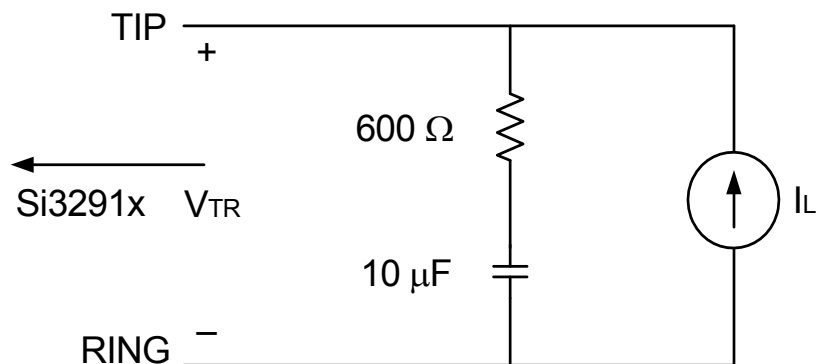

Figure 1. Test Circuit for Loop Characteristics
1. Measured at TIP and RING with $600\ \Omega$ termination at 1 kHz, as shown in Figure 1 on page 14.
1. Measured at TIP and RING with 600 Ω termination at 1 kHz, as shown in Figure 1 on page 14.
For Figures 1–5, all filter plots apply to a sample rate of